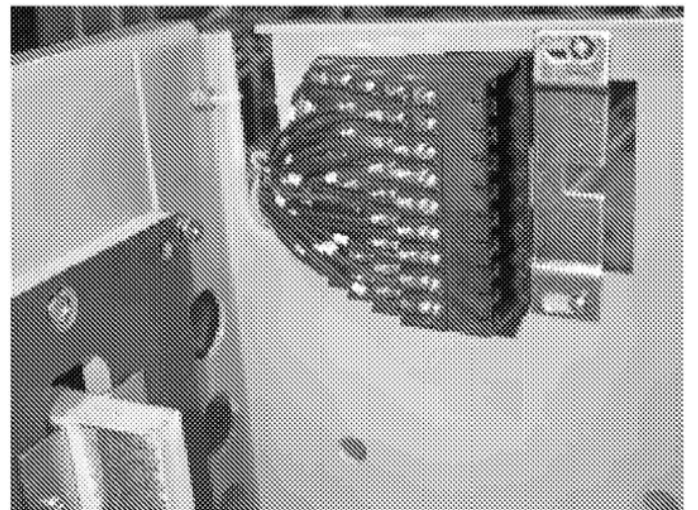

Figure 11. Secondary Disconnect installed in Substructure.
4. Move the mounting slide back to capture the Secondary Disconnect mounting feet, as shown in Figure 11. Tighten the two mounting screws to 32 lb-in. The heads of the screws holding the rear spacers capture the Secondary Disconnect mounting slots.